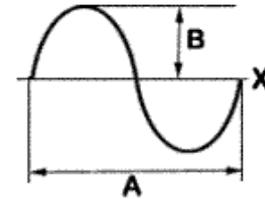

Fig 1.3.1
6. With reference to Fig 1.3.1, what is the value labelled A?
7. With reference to Fig 1.3.1, if the level labelled X has a value of 2V what is the value labelled B?